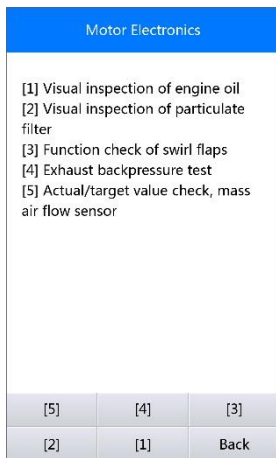

Figure 5-32 *Sample Particle Filter Tests*
- a) Select **[1]** and **OK** button from the particle filter test menu (*Figure 5-32*).
- a) Select **[2]** and **OK** button from the particle filter test menu (*Figure 5-32*).
- a) Select **[3]** and **OK** button from the particle filter test menu (*Figure 5-32*).
- a) Select **[4]** and **OK** button from the particle filter test menu (*Figure 5-32*).
a) Select **[5]** and **OK** button from the particle filter test menu (*Figure 5-32*).